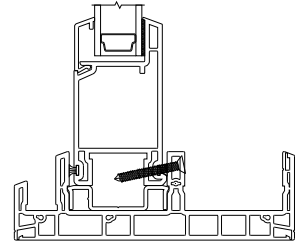

Figure 3B
- Tilt the fixed panel into the top of the frame and let it sit onto the first riser. Push the panel against the side jamb. Install anti-lift clip and slide it above the fixed panel. Secure the fixed panel to the frame jamb with (3) #8 x 1" phillips flat head screws as shown in fig. 3B. Install one in the center and the other two 6" from the top and bottom jambs.